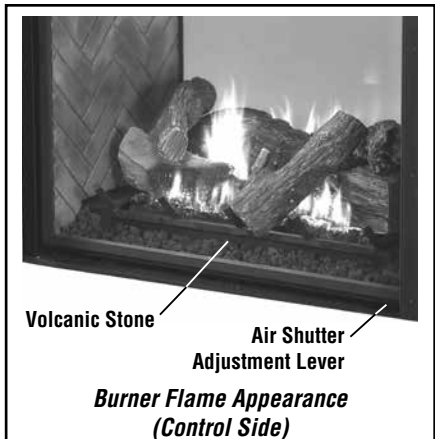

Figure 77
2. Allow the burner to operate for at least 30 minutes while continuously observing the flame to ensure that the proper flame appearance has been achieved (see *Figures 77 and 78*).
3. Adjust the air shutter using the Air Shutter Adjustment Lever on the lower right side of the firebox (see *Figure 77*).
NOTE: See *Figures 77 and 78* for proper burner flame appearance.